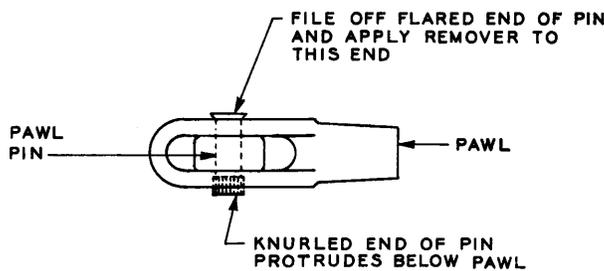

Fig. 13 – Rotary Pawl with Headless-Type Pawl Pin Having Protruding Knurl
3.18 Removing Rotary Pawl Pin per Fig. 13 and 14: Remove both loose and tight rotary pawl pins as covered in 3.17(1) and (3).
(1) If a headless-type rotary pawl pin with a protruding knurl (Fig. 13) is being replaced, make sure that the P-252538 pawl pin (Note 2 for Fig. 1 and 2) is used as the replacement.
(2) If other than the headless-type pawl pin covered in (1) is being replaced, determine the proper replacement pin as follows. Attempt to insert the 0.093-inch end of the 130A gauge into the mounting holes of the pawl and the bearing of the armature. If the gauge does not enter the armature or pawl, use the P-252539 (0.090 inch) pawl pin. If the gauge enters but is snug, use the P-252537 (0.094 inch) pawl pin and, if the gauge is loose, the P-252538 (0.105 inch) pawl pin.